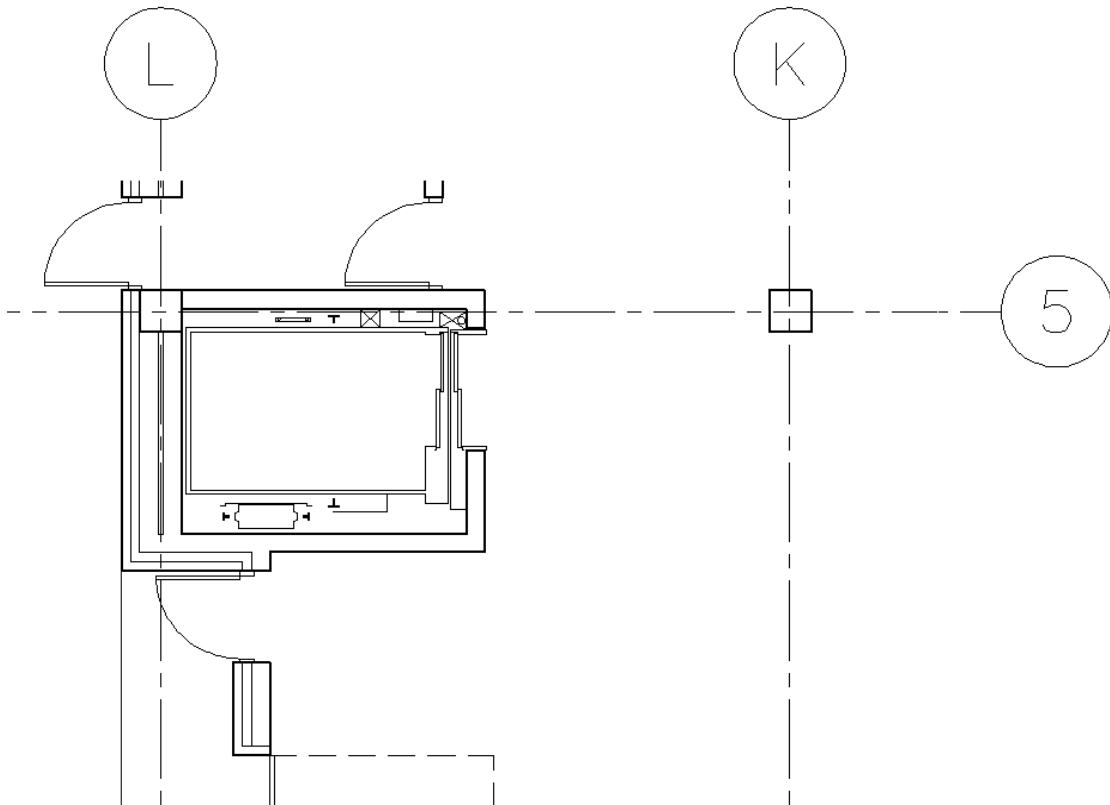

Figure 3-3.12 Service elevator added to plan
31. Place the service elevator per **Figure 3-3.12**, plus: